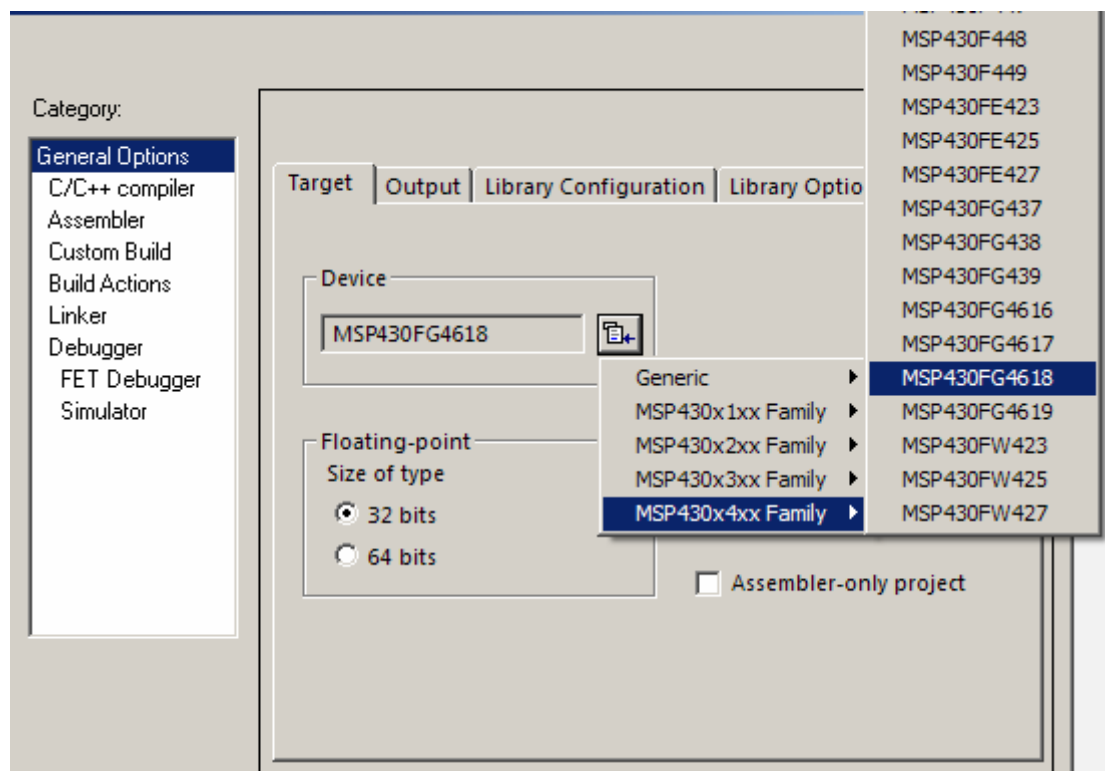

Figure A-1: Device selection in IAR
3. In IAR Embedded Workbench under the **Project** drop-down choose **Options**; this brings up the menu shown in Figure A-1. Under the **General Options**→**Target** choose MSP430FG4618 from the **MSP430x4xx Family** option.
3. In IAR Embedded Workbench under the **Project** drop-down choose **Options**; this brings up the menu shown in Figure A-1. Under the **General Options**→**Target** choose MSP430F2013 from the **MSP430x2xx Family** option.